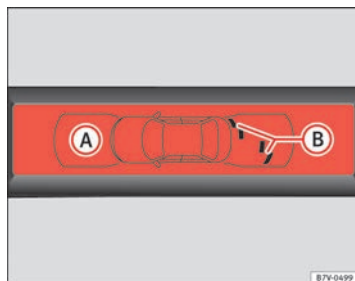

Fig. 144 On-screen OPS display: (A) an obstacle has been detected in the segment (B) zone recorded behind the vehicle
The zone in which obstacles are recognised runs to a distance of around 120 cm from the front of the vehicle and up to 60 cm to the side ⇒ Fig. 144 (B). Behind the vehicle, the zone analysed reaches a distance of up to 160 cm and around 60 cm to the sides ⇒ Fig. 143 (C).
The image displayed represents the supervised zones in several segments. As the vehicle moves closer to an obstacle, the segment moves closer to the vehicle displayed (B) and ⇒ Fig. 144 (A). When the penultimate segment is displayed, this means that the vehicle has reached the collision zone. **Stop the vehicle!** ▶